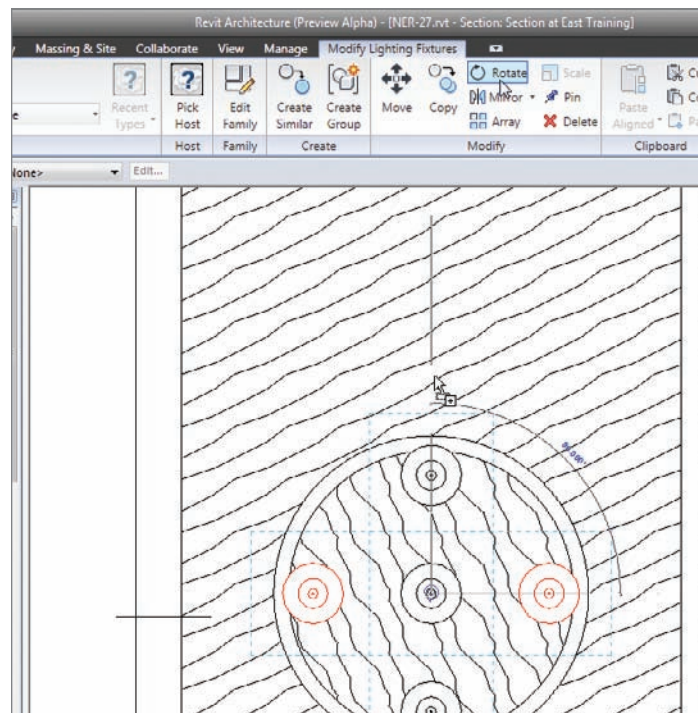

FIGURE 9.37 You are now copying and rotating as if you were in flat, 2D AutoCAD.
6. Rotate the fixtures 90° to create a total of five fixtures, as shown in Figure 9.37.